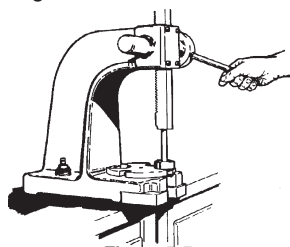

Figure 5-5
6. Using the arbor press, remove the two (2) bearings from the shaft. Refer to Figure 5-5. If the inner race is well